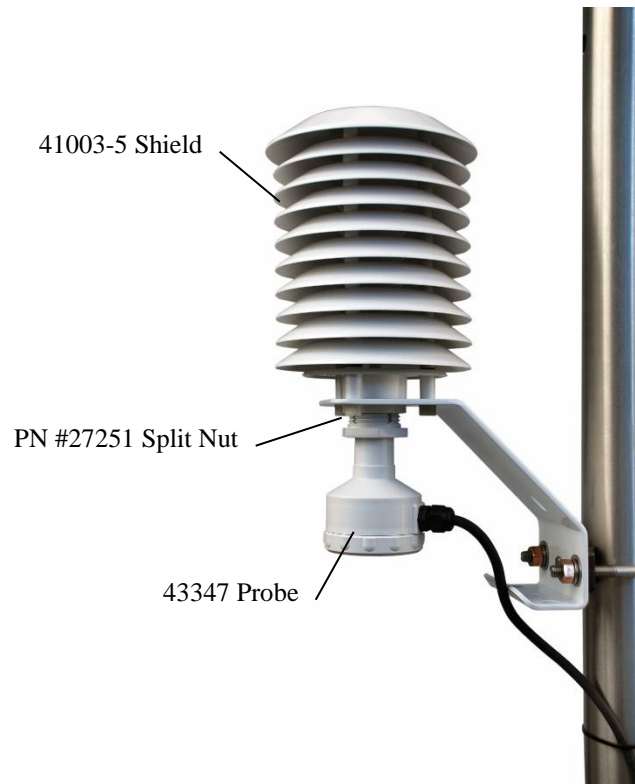
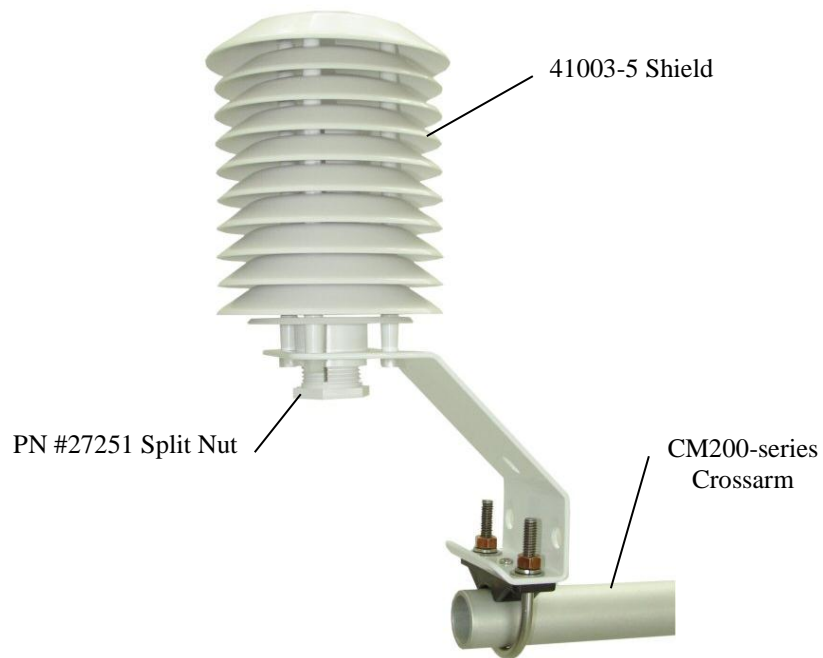

Figure 7-5. 41003-5 Radiation Shield mounted to tripod mast
Figure 7-6. 41003-5 Radiation Shield mounted to a CM200-series Crossarm
1. Attach the 41003-5 to the tripod/tower or crossarm using its U-bolt. Tighten the nuts on the U-bolt sufficiently for a secure hold (see Figure 7-5 and Figure 7-6).